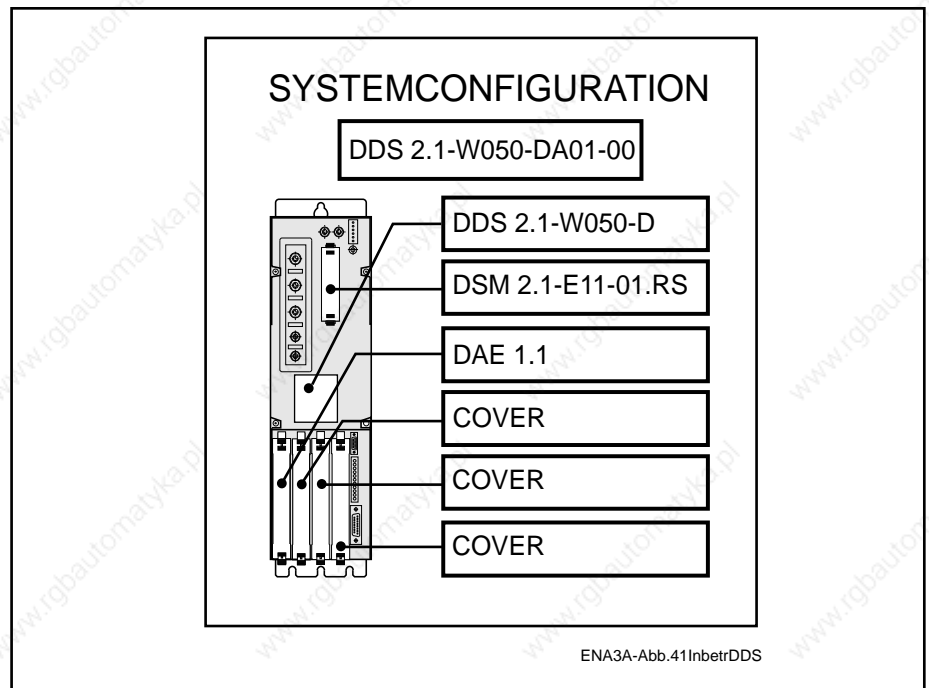

Fig. 58: Configuration rating plate
**Check the configuration of the drive controller (See Fig. 58): The data on the configuration rating plate must correspond to the components installed in the drive controller. If this is not the case, the AC servo drive and the machine mechanics may be destroyed or damaged!**